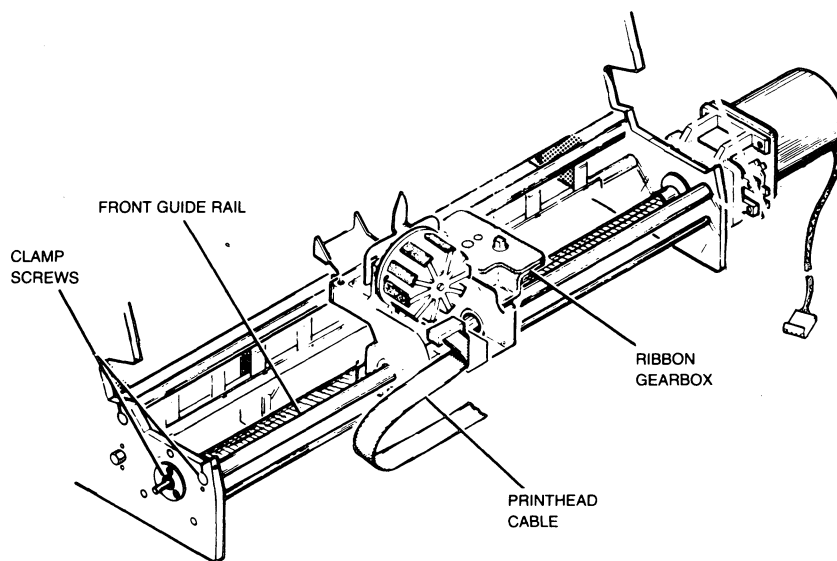

Figure 5.14 Carriage Removal/Replacement
5. Loosen two clamp screws securing the front guide rail to end plates (see Figure 5.14).